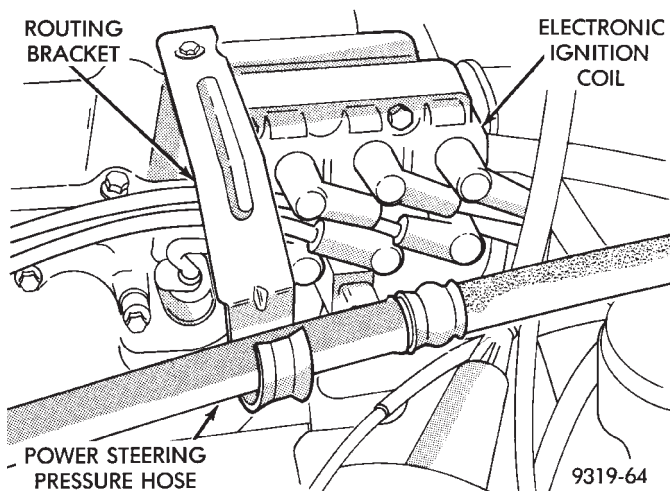
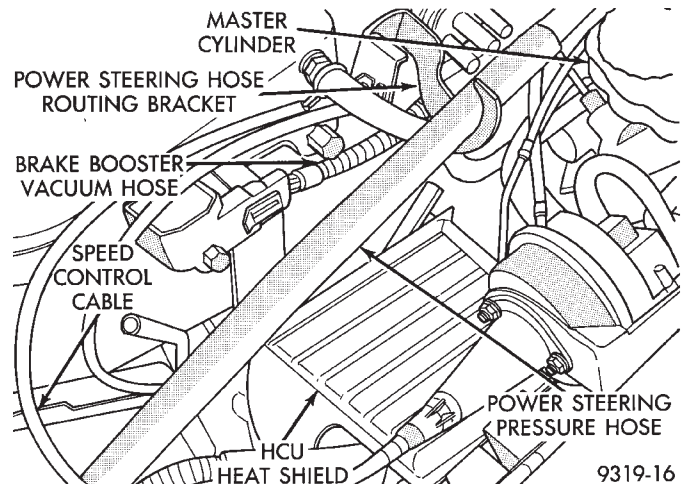

Fig. 10 3.3 Ltr. Power Steering Pressure Hose Routing And Bracket
Fig. 11 3.5 Ltr. Power Steering Pressure Hose Routing And Bracket
(4) Route the power steering pressure hose through the routing bracket on the engine assembly. See (Fig. 10) and (Fig. 11) for hose routing and bracket location for the 3.3 and 3.5 ltr. engine applications.